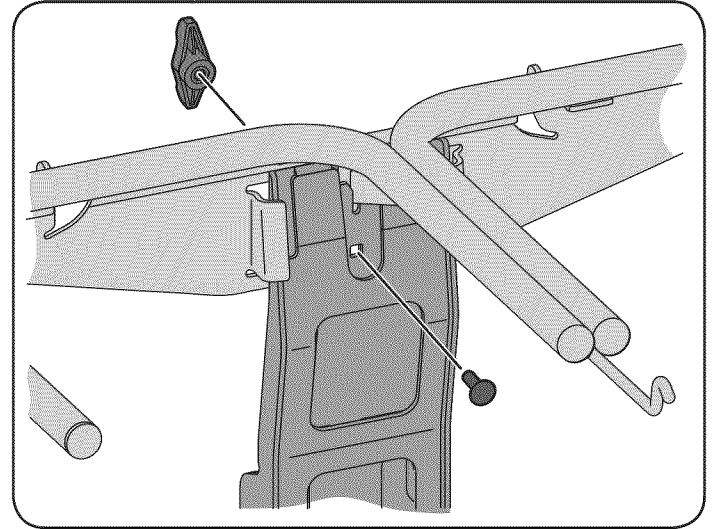

Figure 9
7. Install the hanger assembly onto the upright support bracket using the 5/16" carriage bolt packed loosely with the upright mounting bracket. Simply discard the flange nut packed with the carriage bolt, and replace it with the wing knob (720-04122) packed in hardware pack 689-00319. See Figure 9.